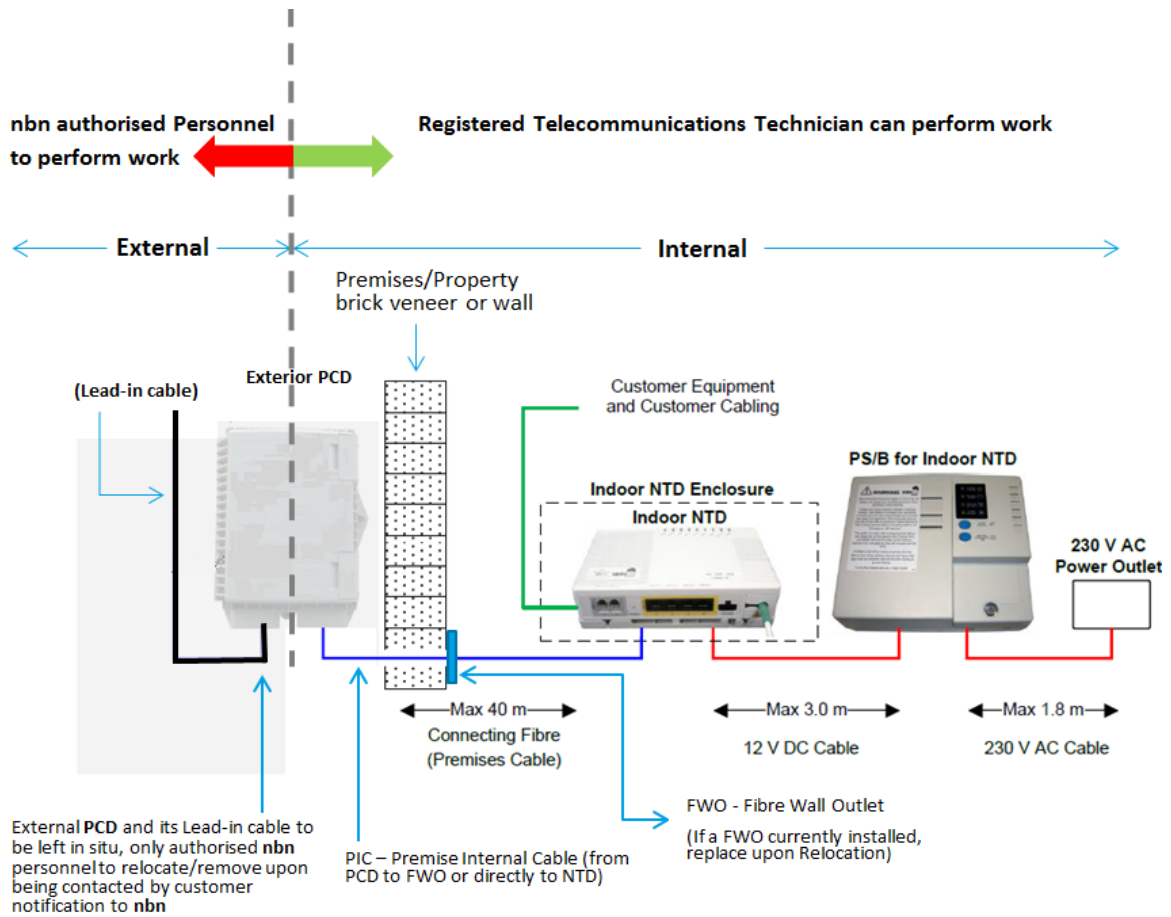
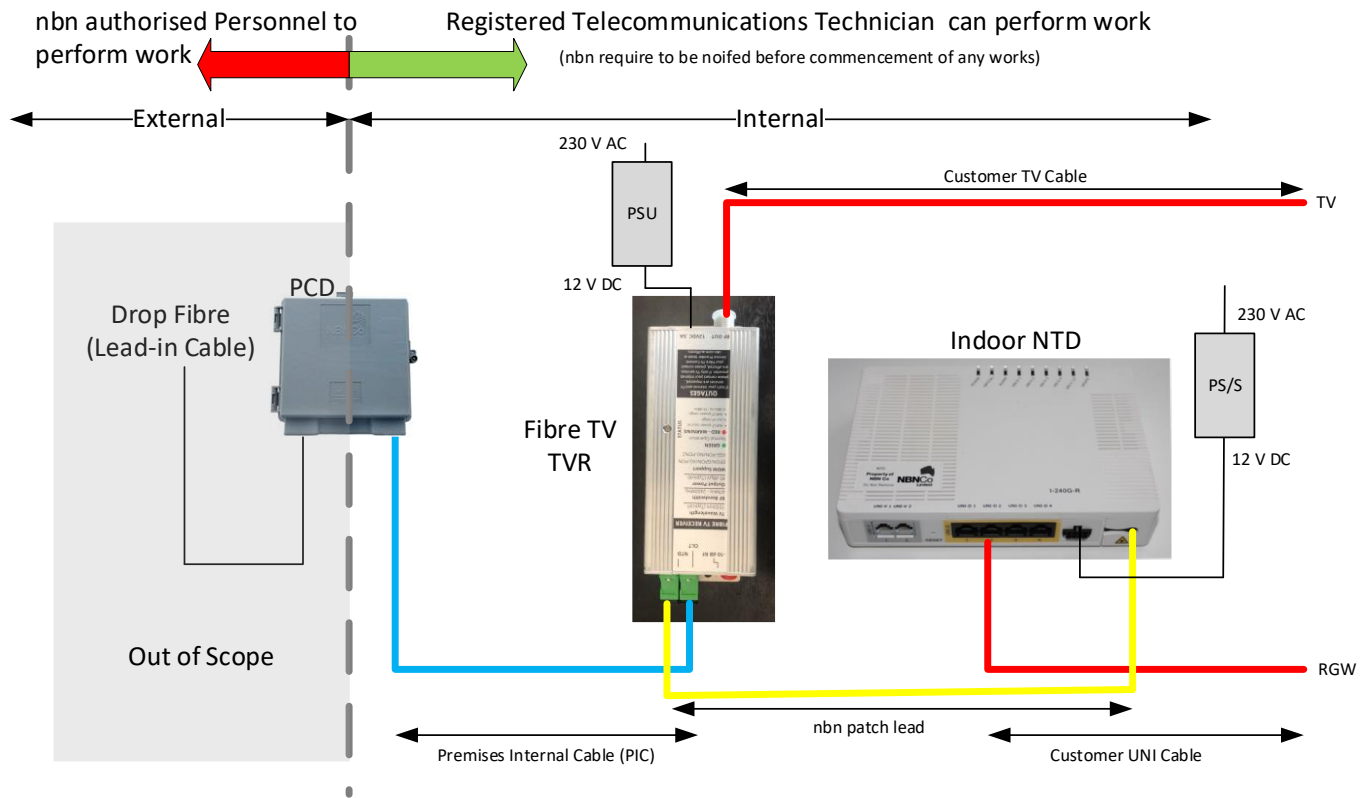

Figure 30. nbn Internal NTD with PS/B Power Unit
Figure 37. Fibre TV TVR with Indoor NTD
- replace, relocate or otherwise alter the nbn fibre within premises for renovation, demolition or relocation of the building subject to the boundaries identified in Figure 30 through to Figure 37